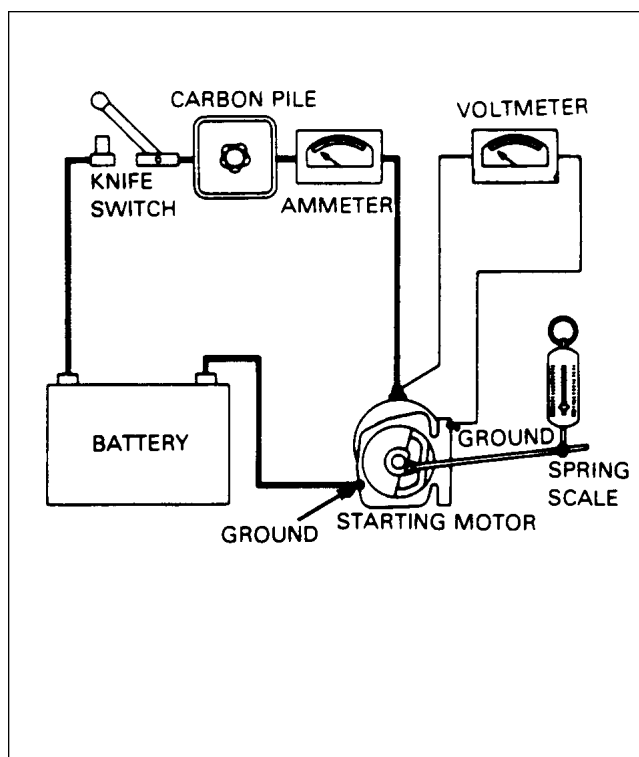

Figure 80-6. Stall-Torque Hookup
2. If no difficulty is indicated in the above test, conduct a torque test to see if starting motor is producing its rated cranking power. Make test connections as shown in figure 80-6.